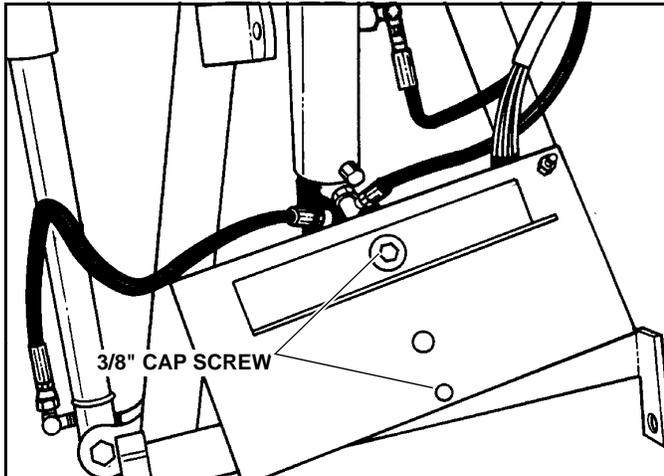

Figure 2-3
- Tilt Power unit up and remove two 3/8" Cap Screws securing Pump unit to frame. (See Figure 2-3)